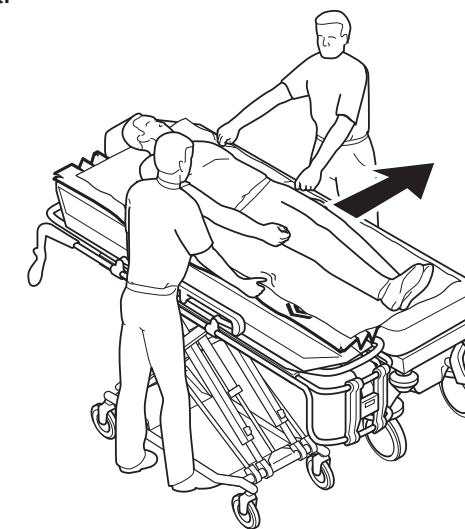

Figure 5
6. With at least one operator on each side of the patient, pull on the linen sheet to transfer the patient (Figure 5).